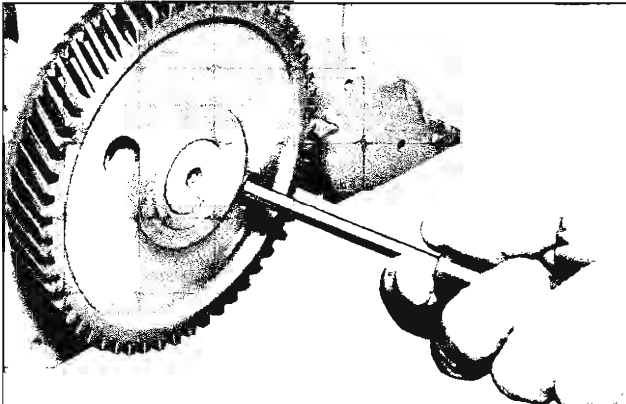

Fig. 32—Removing Camshaft Thrust Plate Screws
8. Remove the two camshaft thrust plate screws by working through holes in the camshaft gear (fig. 32).